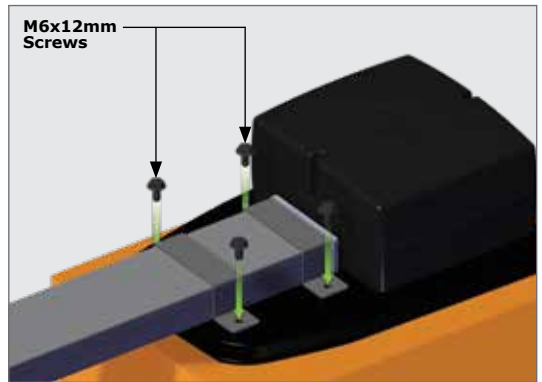

FIGURE 11
5. Secure the U-Brackets into position using 4x black M6x12mm screws (Figure 11).